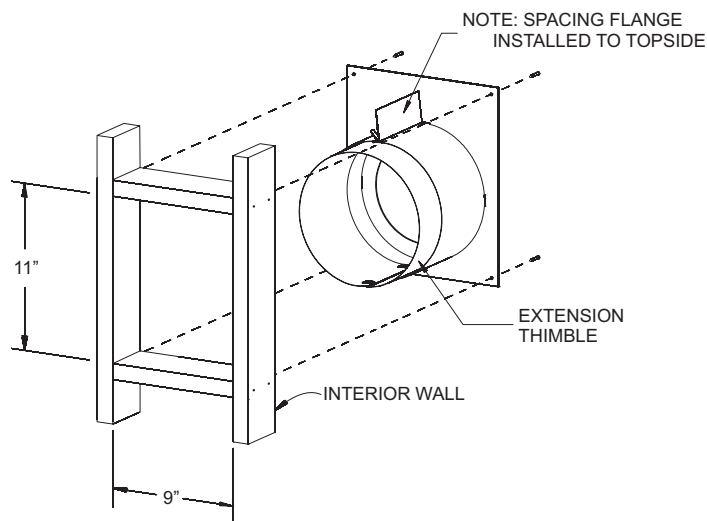

Figure 29
2. Cut hole in wall for wall thimble/firestop assembly into your combustible wall. **See Figure 29.** Note: On brick or block exterior wall a 7" (178mm) diameter hole needs to be cut.
Measure the total wall thickness to determine whether or not the extension thimble is to be used. If the combustible wall depth is over 5 3/8" (137mm), then the extension thimble should be used. **See Figure 29.**
3. Install the wall thimble assembly through the framed opening so the firestop plate is on the interior wall. **See Figure 29.** Telescope section should extend all the way through the exterior wall. Attach with (4) 10 x 1" screws.